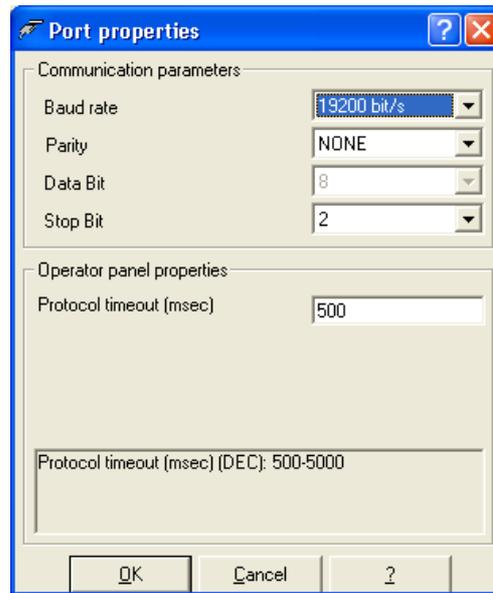

Fig. 8.
3.7 Highlight the MSP port. Double-click on it. The *Port Properties* window will come up. The Communications parameters are set by default for the Unidrive SP apart from the Baud Rate that will be set to 19,200 bit/s. See Fig. 8.